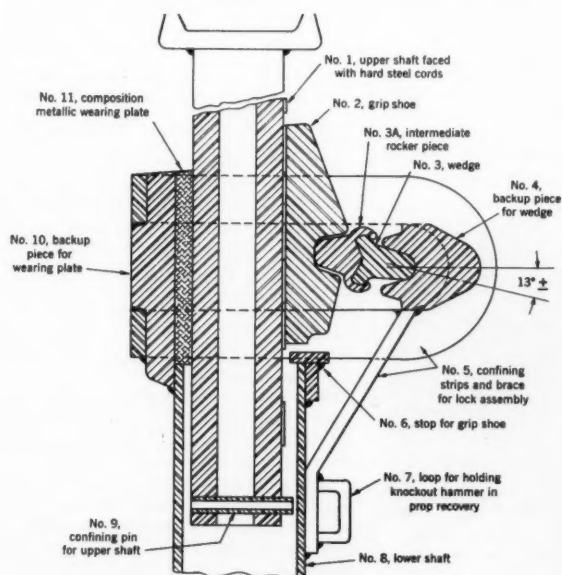

Fig. 5. Becorit prop cross-section
Mechanics of the prop action are as follows: (See figure 5). To set the prop the wedge (3) in its maximum tilted position (13 degree slope) is driven into the lock with a hammer. The hard metal beads in the face of the inner prop (1) are forced slightly into the soft pressure block (grip shoe) (2) and are forced farther into it when the wedge is moved 13 degrees in the lock. The inner prop is pressed between the pressure block and the silicon aluminum friction liner (11) mounted on the back-up piece (10). When the prop load exceeds 15 to 20 tons the inner prop moves down and into the outer prop and forces the pressure block down.